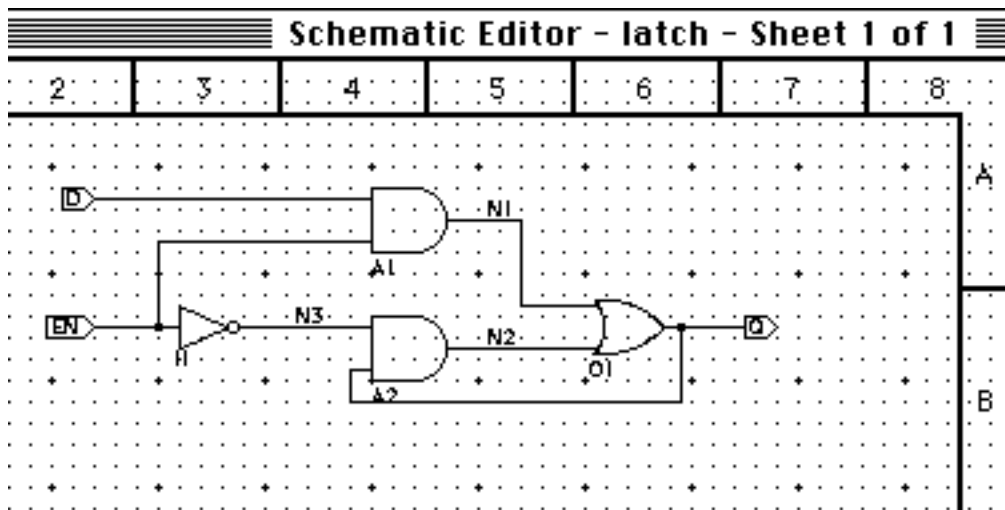

Figure 3-19 Completed Latch Schematic
3. Change the I/O marker type to output and click on the Q output. The final latch schematic should look as shown in Figure 3-19.